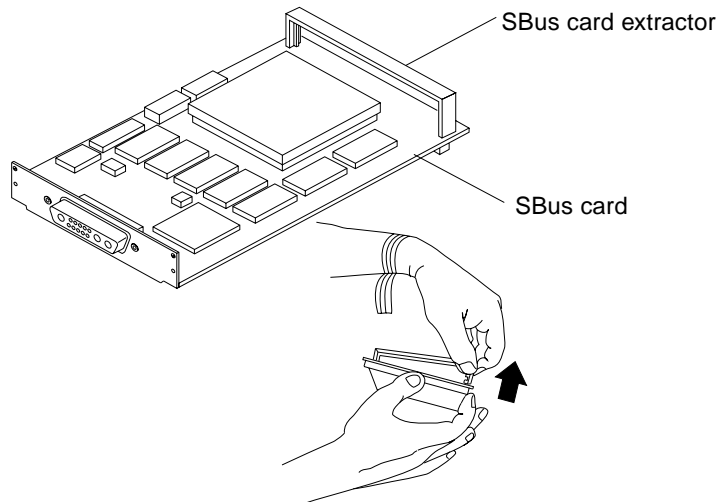

FIGURE 10-14 Removing the SBus Card Extractor
1. Remove the SBus card extractor (if any) as follows (FIGURE 10-14):